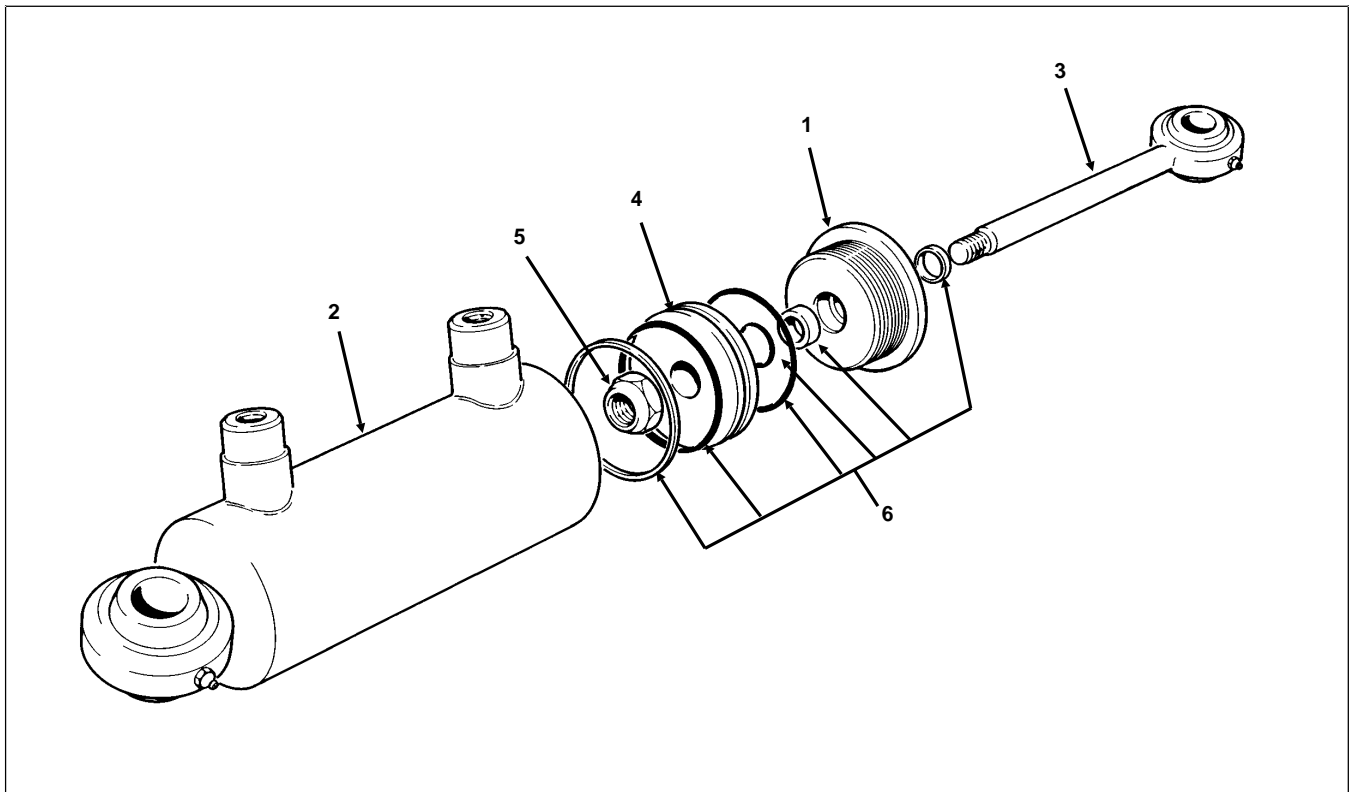

Figure 21
4. Use a spanner wrench to unscrew (counterclockwise) head from barrel (Fig. 21).